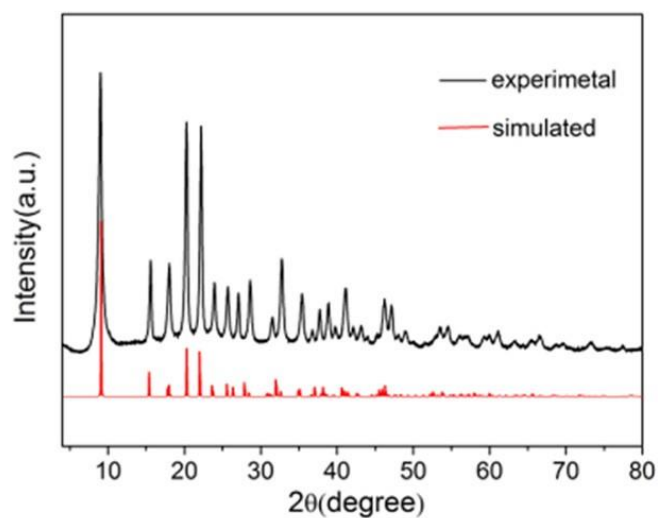

Fig. S1 Experimental (black) and simulated (red) PXRD patterns of Ni-ntca.
- I. **Fig. S1** Experimental (black) and simulated (red) PXRD patterns of Ni-ntca.